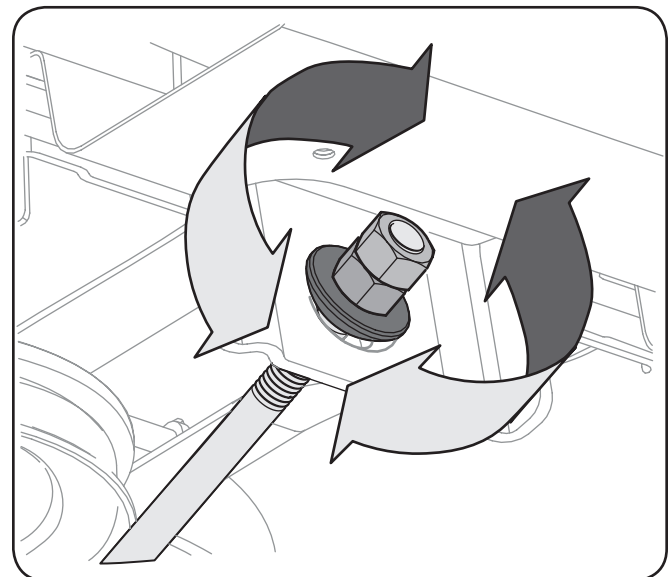

Figure 6-6
- To *raise* the front of the deck, loosen the outer nut then tighten (thread inward) the nut against the front hanger bracket. See Figure 6-6. When proper adjustment is achieved, re-tighten the outer nut to 25-30 ft.-lbs.
2. To lower the front of the deck, loosen the outer nut then loosen (thread outward) the nut, away from the front hanger bracket. See Figure 6-6. When proper adjustment is achieved, re-tighten the outer nut.